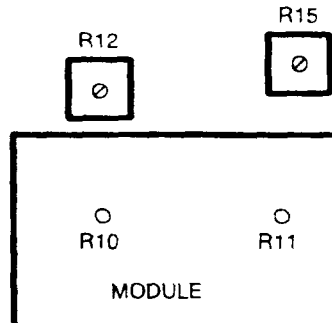

Figure 5-15. Location of R10, R11, R12 and R15
1. Set R12 fully counterclockwise and R10 to its midposition. R10 and R12 are located on the counter's PCB as shown in Figure 5-15.
1. Set R15 fully counterclockwise and R11 to its midposition. R11 and R15 are located on the counter PCB as shown in Figure 5-15.